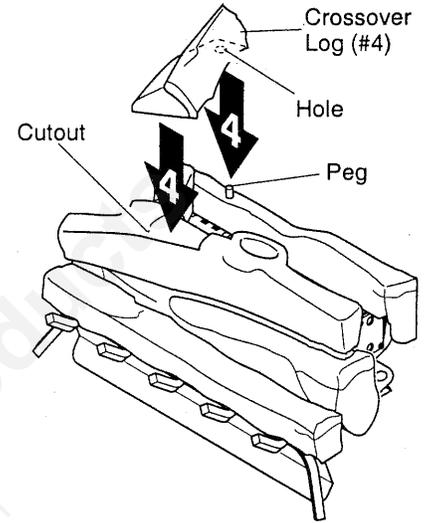

Figure 38 - Installing Crossover Log (#4)
4. Place the crossover log (#4) on the rear log and the middle log. Make sure the peg on the rear log is in the hole in the bottom of the crossover log. The crossover log should fit in the cutout of the middle log (see Figure 38).